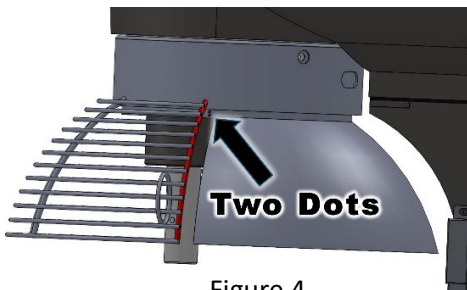

Figure 4
3. Turn the wire guard until the edge of the wire aligns with two indentation markers on the fixed rear guard. See figure 4.